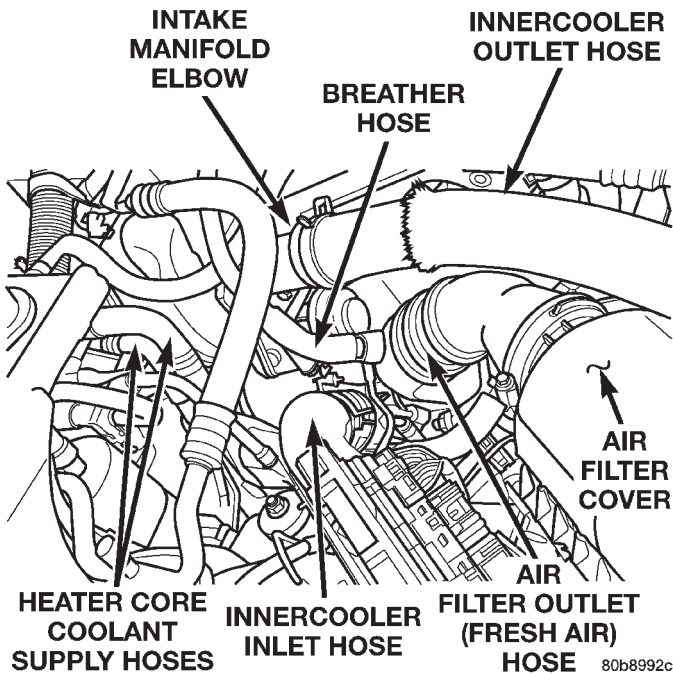

Fig. 1 LHD Engine Compartment — Diesel
- (1) Disconnect the negative battery cable.
- (2) Remove the innercooler inlet hose from turbocharger and position it out of the way (Fig. 1).